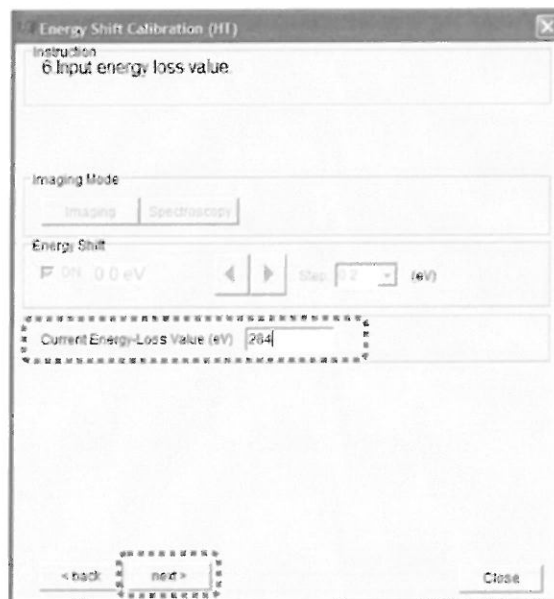

Fig. 5.42 Energy Shift Calibration (HT) - 6. Input energy loss value
6. Follow "Instruction – 6. Input energy loss value", enter the absorption edge energy value set in 5 into the Current Energy - Loss Value (eV) and click the **next** button (Fig. 5.42).